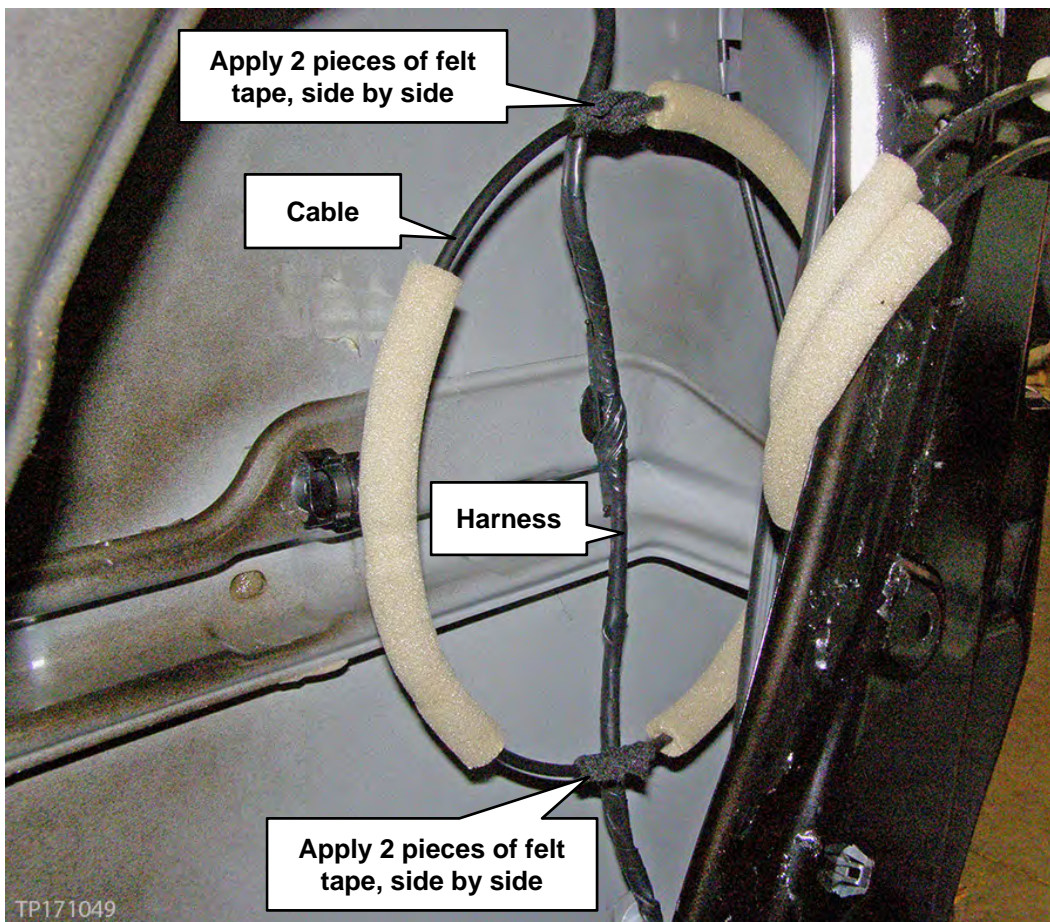

Figure 3
3. Apply 2 piece of felt tape, side by side, to the outside door handle cable in the 2 locations where it contacts the harness. See the areas indicated in Figure 3.